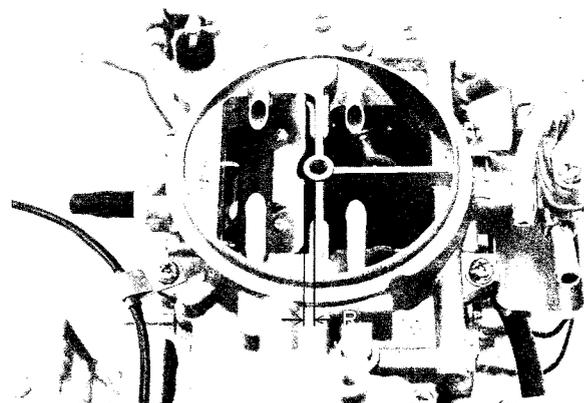

Fig. 4-10 Checking choke valve clearance
5. Check the clearance (R) as shown in Fig. 4-10.